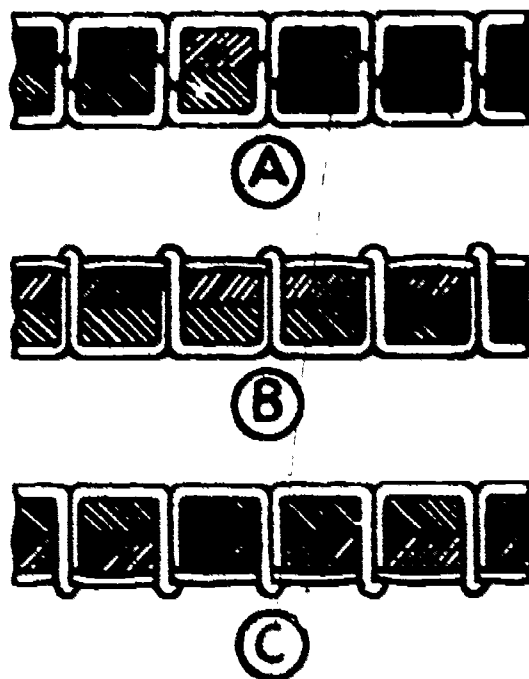

Figure 10. Correct and Incorrect Tension Adjustment on Needle and Bobbin Threads.
Figure 10 shows correct and incorrect tension adjustments on the needle and bobbin threads. (A) is the correct adjustment as the lock is formed in the center of the plies of material indicating that both the needle thread tension and the bobbin thread tension are as they should be. (B) is an incorrect adjustment as the lock is formed on the top ply indicating that the needle thread tension is too tight. (C) is an incorrect adjustment as the lock is formed on the bottom ply indicating that the needle tension is too loose.